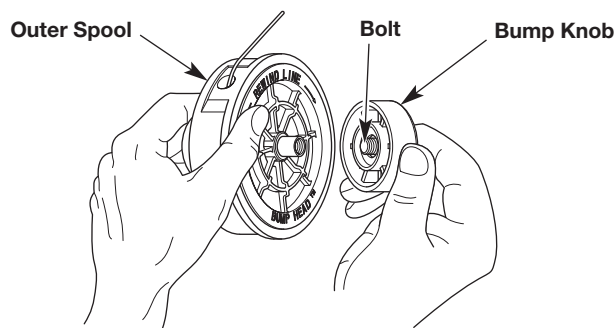

Fig. 10
1. Hold the outer spool with one hand and unscrew the bump knob counterclockwise (Fig. 10).